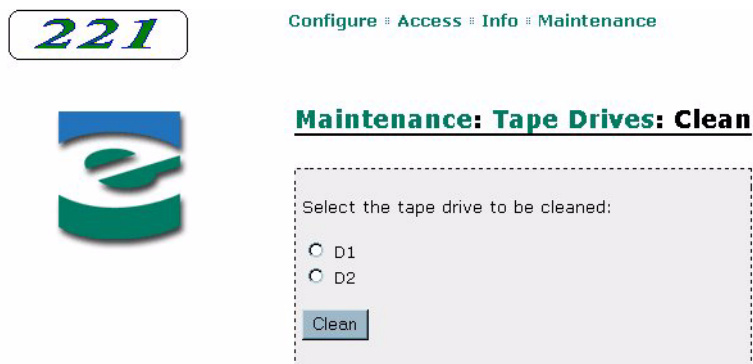

Figure 6-44 Remote management utility – Tape Drive Cleaning page
4. Click on Clean a tape drive. A page similar to Figure 6-44 appears.